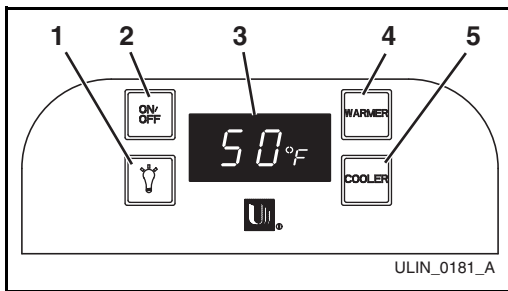

Figure 7
1. Press and release either the WARMER (Figure 7, 4) or COOLER (Figure 7, 5) button to put the controller in the SET TEMPERATURE mode. The °F symbol will begin to flash.
3. The change will be set five seconds after adjusting the temperature and the new set-point will be displayed (Figure 7, 3).